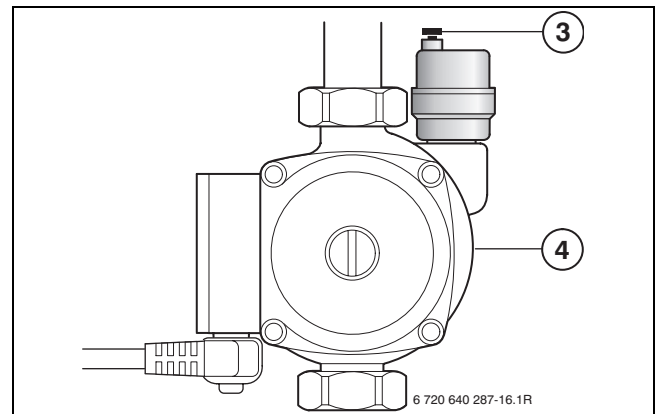

Fig. 18
- ▶ Vent the system again at the automatic air vent valve at the solar circuit pump (→ Fig. 18, [3], page 16).